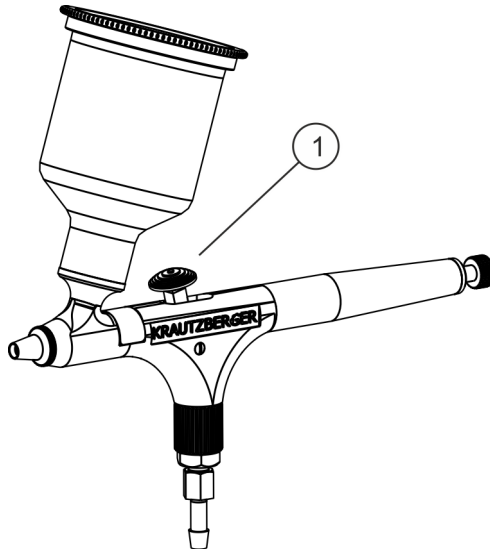

Fig. 3: Pull lever
Start spraying process by activating the pull lever (Fig. 3/1).
6. ➤ End the spraying process by releasing the pull lever (Fig. 3/1).